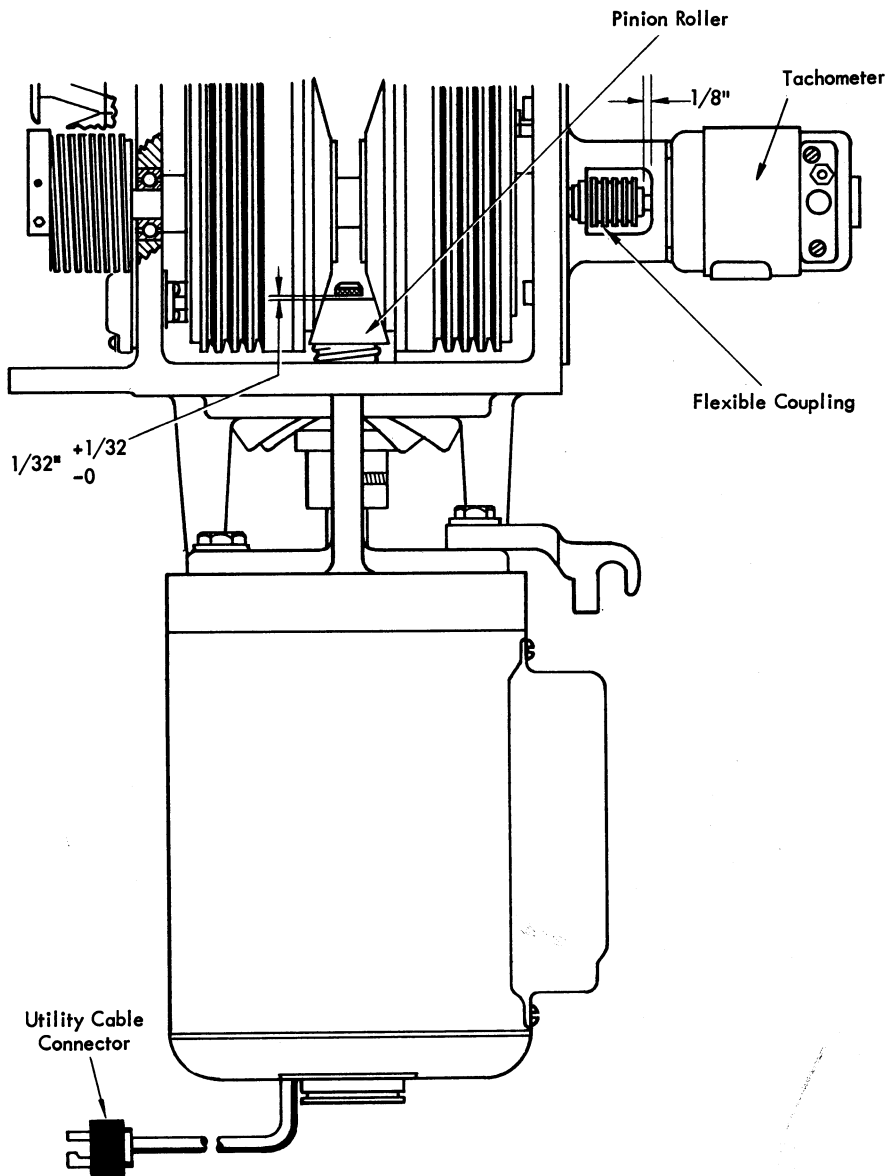

Figure 3-12. Access Motor
Access Motor (Figure 3-12)
Pinion Roller (Figure 3-12)
2. Check for $\frac{1}{8}$ " clearance between tachometer and coupling (Figure 3-12).